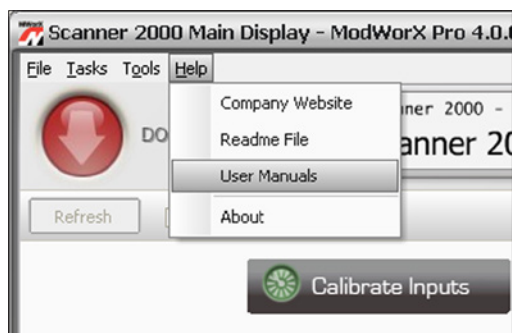

Figure 2.15
- Click the **Help** menu at the top of the screen and select **User Manuals** (Figure 2.15). Documents will open within the ModWorX Pro viewing window.